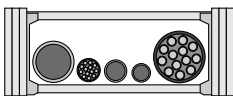
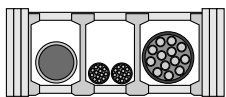
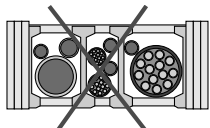

Figure 3
Figure 4
Figure 5
2. Arrange cables and hoses in PowerTrak so that load is evenly distributed across width with largest and/or heaviest cables/hoses located to the outer sides of the PowerTrak (Fig. 3). Use separators between different sizes of cables and hoses to maintain proper spacing and to reduce cable/hose jacket wear (Fig. 4). Do not place large cable or hoses in same compartment with small ones (Figs. 5 & 6).